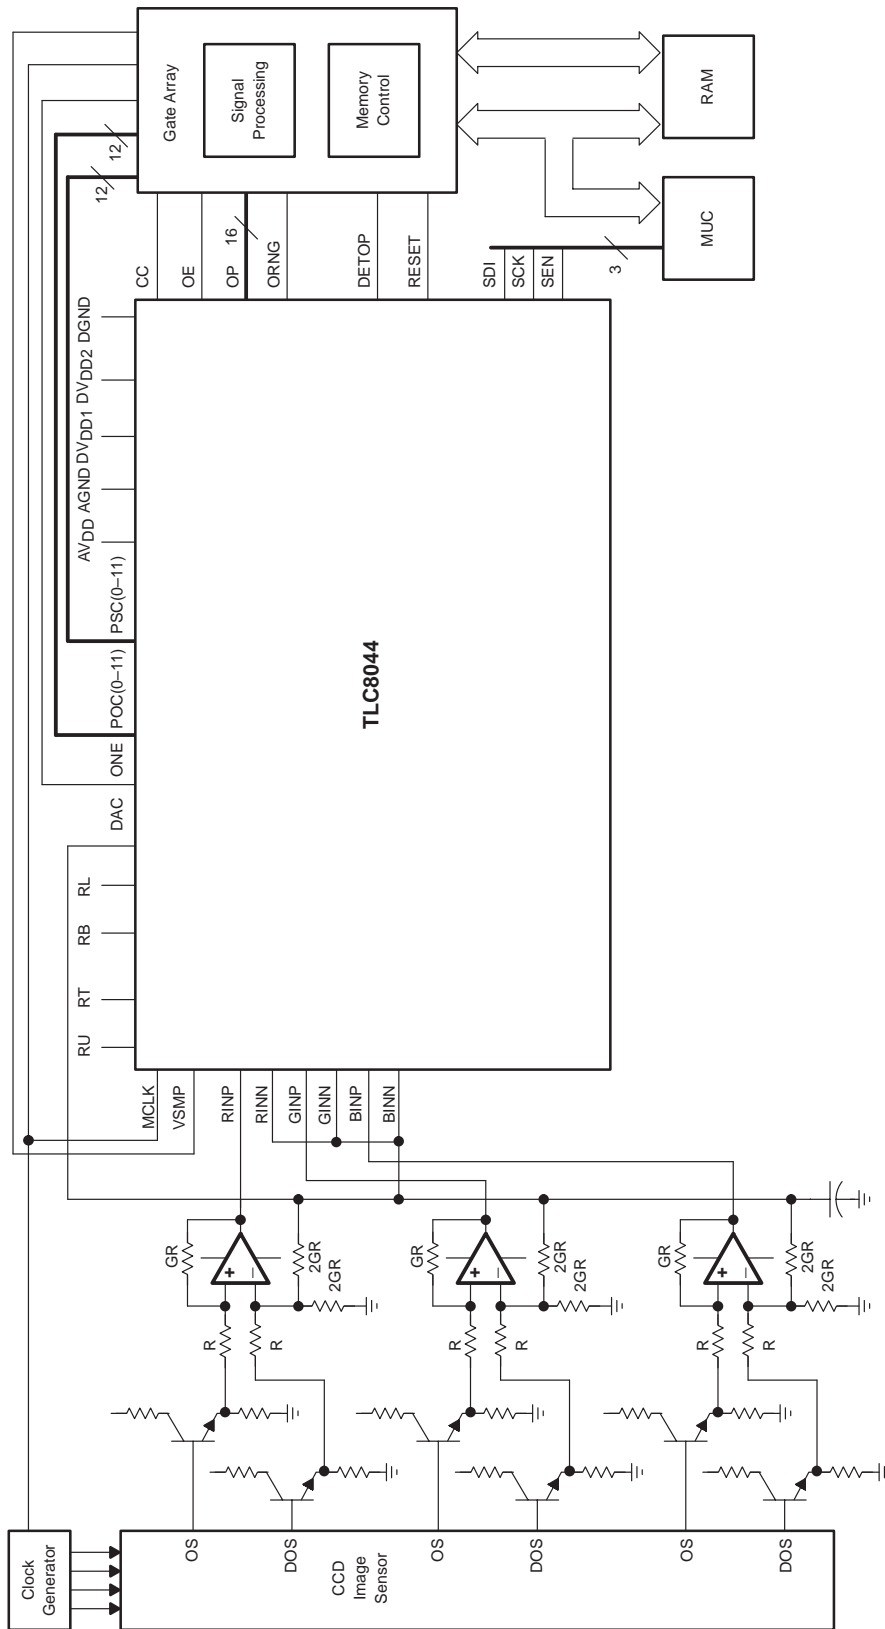
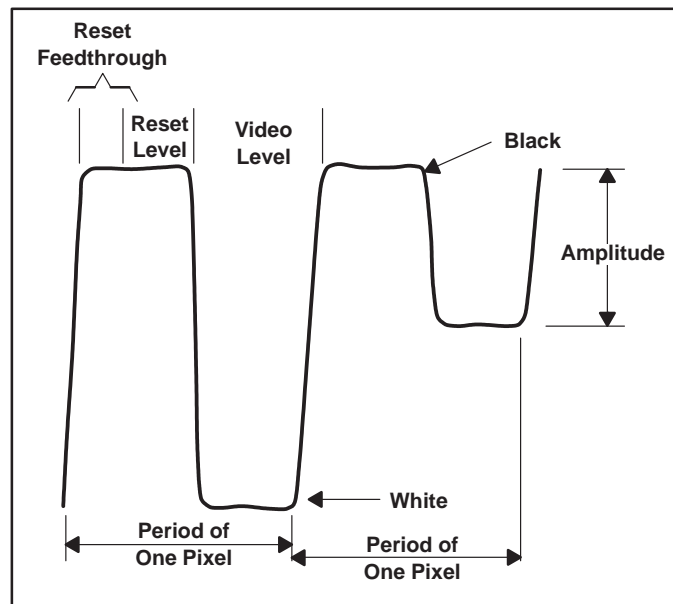

Figure 8. System Diagram
Figure 9. A Typical Charge-Coupled Display (CCD) Output Signal
Figure 8 shows a simplified CCD image sensor linear array system with typical CCD array inputs and outputs. The inputs for the shift gate (SH), reset, and two-phase clock drive the array. An electronic charge proportional to the light input is generated by a photo diode for each pixel of the array. The charge for each pixel is transferred in parallel into the analog CCD shift register using the shift gate input and then shifted out serially using a two-phase clock. At the CCD output (OS terminal), the array converts the charge for each pixel into a voltage using a capacitor and source follower MOS transistor. The charge on this capacitor is reset for each pixel by the reset pulse input. A typical output signal then includes a reset period, a dark period, and a period containing video output for each pixel, as shown in Figure 9. This signal sits on a varying dc offset of typically 5 V and is negative going for an increase in video output. An output (DOS terminal) also provides only the dc level from the CCD array.
The TLC8044 uses external operational amplifiers configured as differential amplifiers to remove the dc level present in the CCD outputs by using the common mode voltages from the OS and DOS outputs for each channel (see the functional block and system diagrams). DC bias is provided for the external differential amplifier from the TLC8044 DAC output as shown in the system diagram in Figure 8. Without any residual offset from the CCD, the differential amplifier minimum output is  $(\text{DAC result})/2$  and is unaffected by the external differential amplifier gain setting (G). The offset at the output of the external differential amplifiers, including residual offset from the CCD, should be low enough to ensure the CCD amplified signal is within the input common mode range of the TLC8044 and that the offset can be adjusted out by the TLC8044 internal DACs.